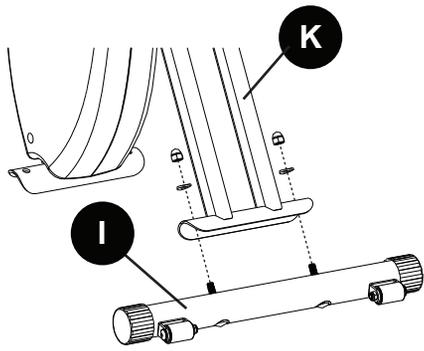

FIGURE 1
Step 1: Install the Rear Stabilizer (I) to the Main Frame (K). Be sure to tighten it securely. **Figure 1**